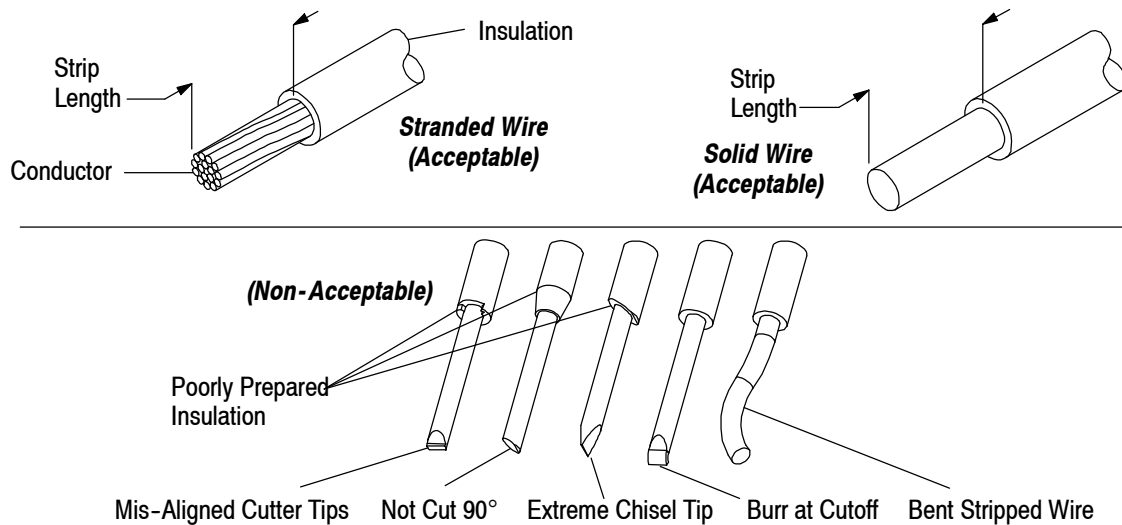

Figure 3
- Added new art to Figures 3 and 4, changed reference specs in Paragraphs 2.5, 3.8.C, 3.11, 3.11.B.1, 3.11.C.1, and 3.12
These connectors will accept 18, 20, and 22 AWG solid copper wire; 18 and 20 AWG prebond copper wire; and 18 AWG stranded copper wire. The table in Figure 2 provides wire selection for the Poke-In Connectors. The wire strip length is 7.00 ± 1.00 mm for the poke-in cavity with an insulation diameter of ≤ 2.10 mm. See Figure 3.